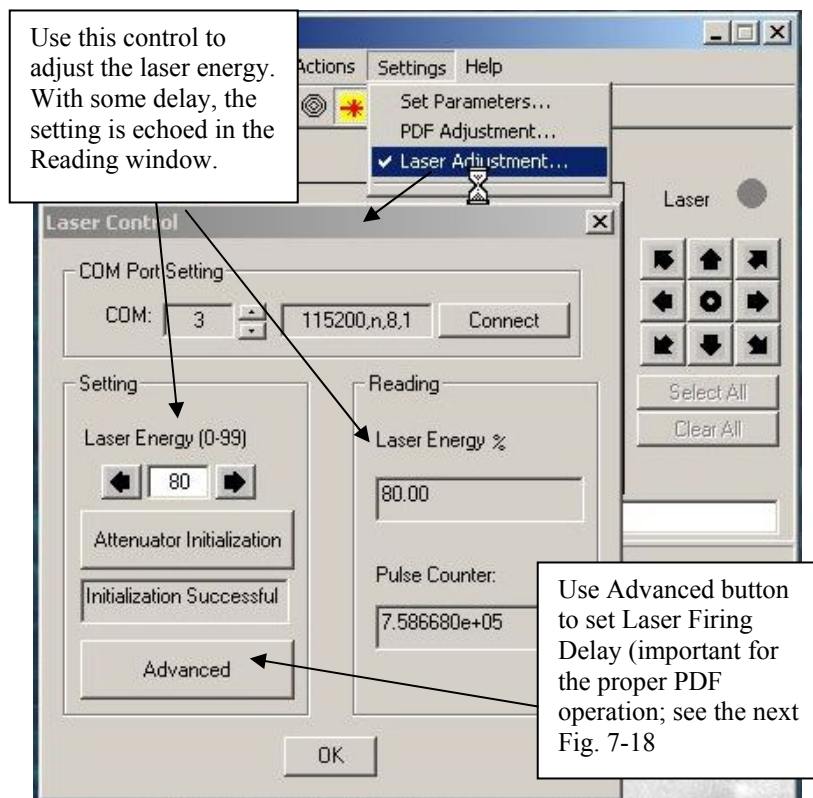

Fig. 7-17. Laser Adjustment dialog enables to choose an appropriate laser attenuation.
To adjust laser attenuation, use the dialog box shown in Fig. 7-17 (accessed through Settings -> Laser Adjustment menu item). There are more controls included in Laser Control dialog (Fig. 7-17) like COM Port Settings etc. They are included for technological purposes; the user has no needs to use them.
Important. During the first run of Target software, the proper Laser Firing Delay value should be set through Advanced button (see Figs 7-17 and 7-18). The delay is important for proper PDF operation. Its value is unique for every Control Unit and is specified on a special sticker placed at the factory at the bottom of Control Unit housing.
- Laser pulse energy may be easily tuned through Target software (see Fig. 7-17).